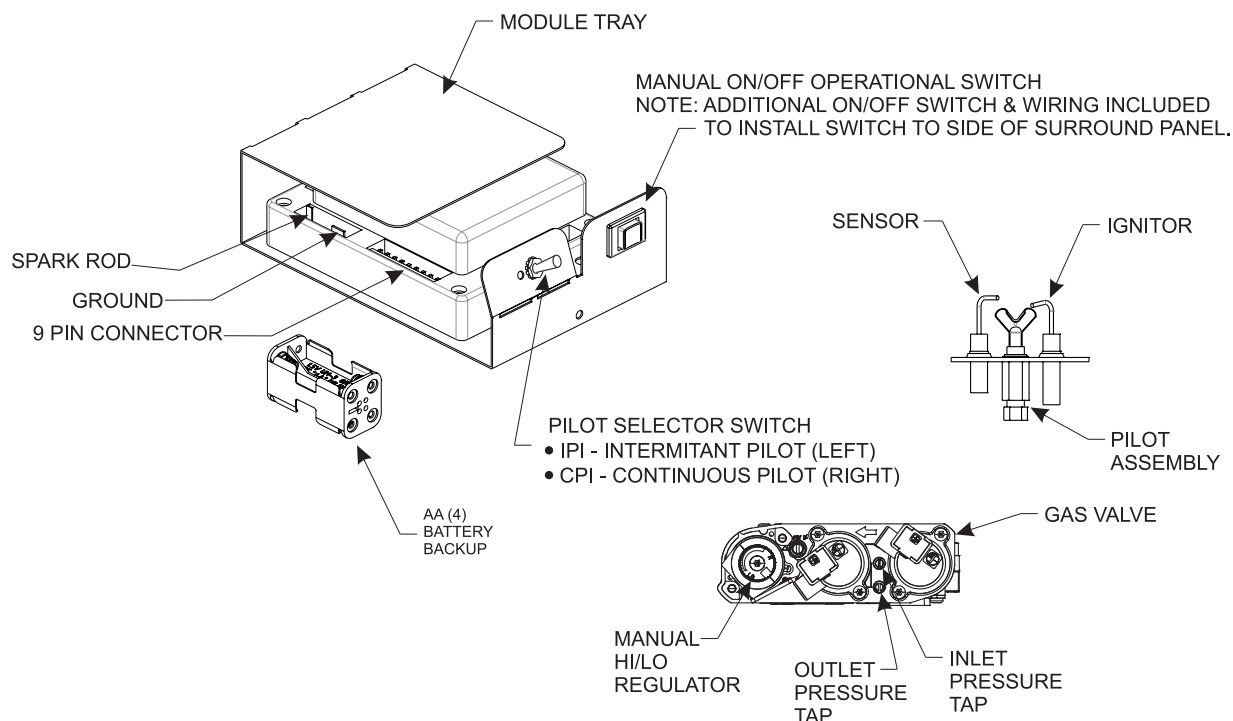

Figure 79
NOTICE: A small toggle switch is located on the front of the module tray that is used to switch from IPI (left) to the CPI (right). See Figure 79.
3. The gas valve has inlet and outlet pressure taps as shown in Figure 79. Refer to page 13 for gas pressure requirements.
NOTICE: The gas control has a manual HI/LO flame adjustment knob (regulator) that allows you to increase or decrease the height of the burner flame. See Figure 79. Rotate the HI/LO knob counterclockwise to "HI" to increase the flame height, and clockwise to "LO" to decrease the flame height.
To connect the remote receiver to the fireplace, first disconnect the ON/OFF switch wires from the white and green wire connectors and connect the wires from the remote receiver to the green and white wire connectors. See Figure 79.